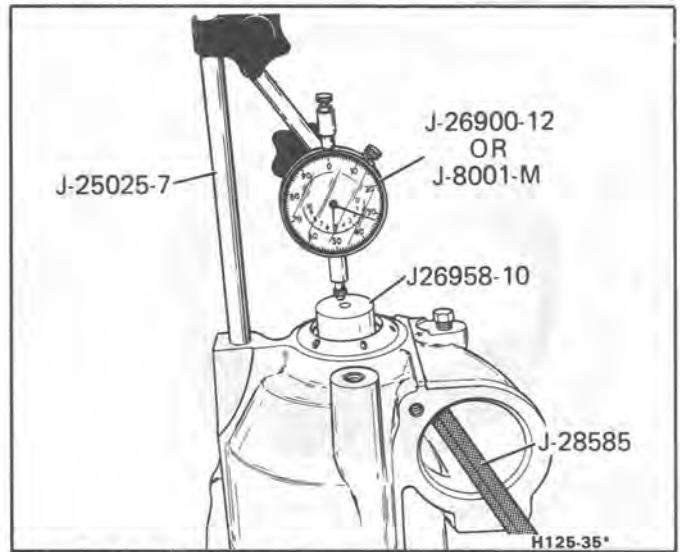

Figure 37 Final Drive End Play Selective Thrust Washer (680) Measurement
- Clutch plates (658) & Backing plate (659)
- Roller clutch assembly (665)
- Internal gear (668)
- Shaft (669)
**Measure (Figures 37, 38, 39 and 40)**